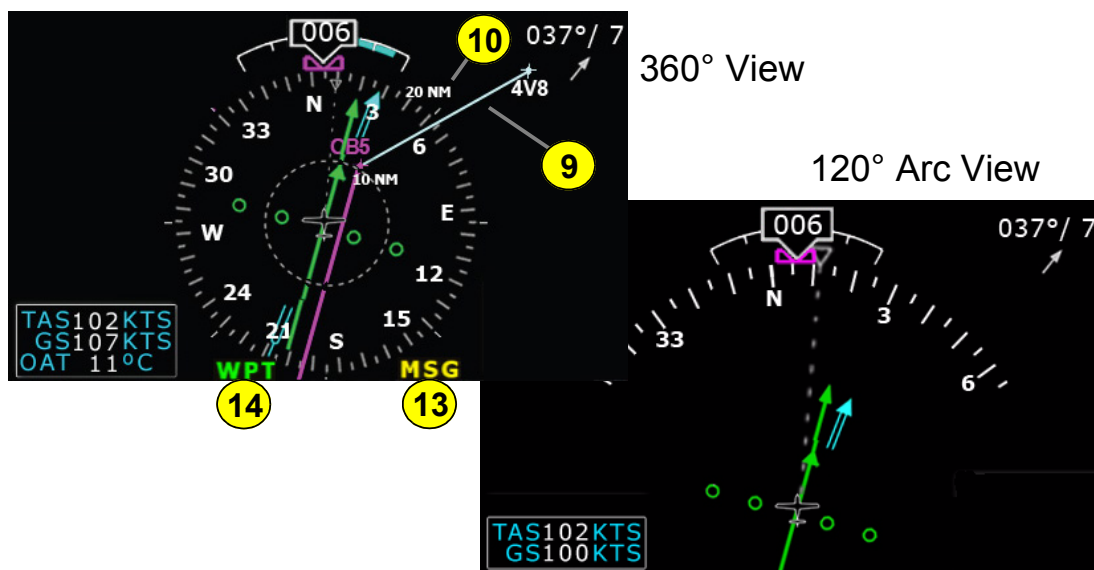

Figure 4. EHSI Views
The Horizontal Situation Indicator (HSI) displays as either a full 360° circle or as a 120° arc (See Figure 4 on page 12). All lower-half display features can appear in either the 360° or the 120° arc EHSI views.
- 4) **HSI**—The Horizontal Situation Indicator (HSI) can be viewed as either a full 360° circle or as a 120° arc. The EHSI views are shown in Figure 4: